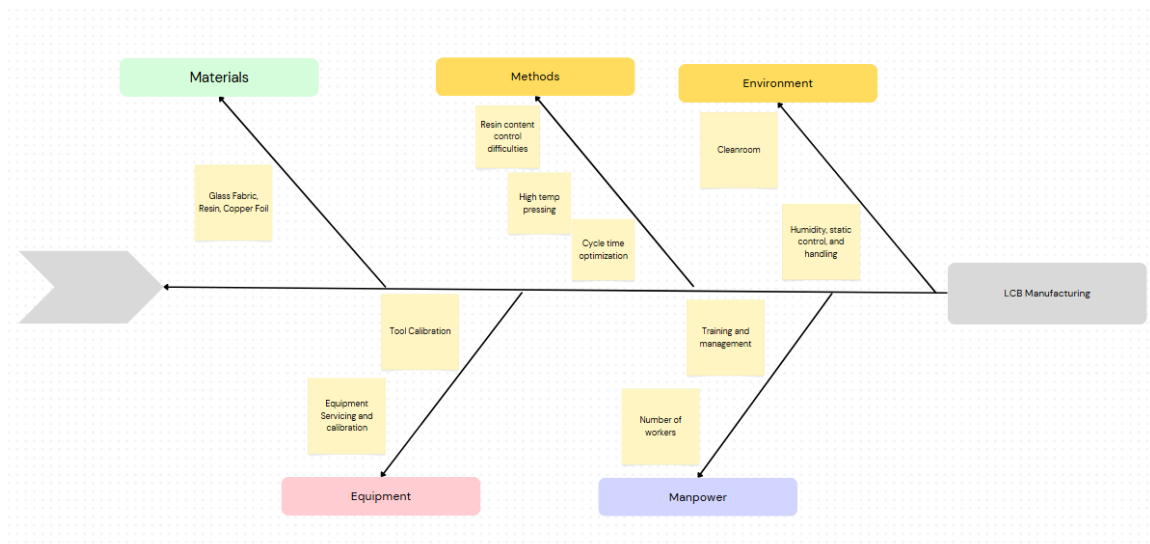

Figure 5: Fishbone Diagram
2. **Fishbone Diagrams** (Fig. 5.) categorized potential causes into Material (e.g., resin inconsistencies), Method (e.g., curing variability), Machine (e.g., press calibration), and Environment (e.g., airborne debris). This systematic categorization helped address complex, multifactorial problems affecting resin flow and adhesion strength.